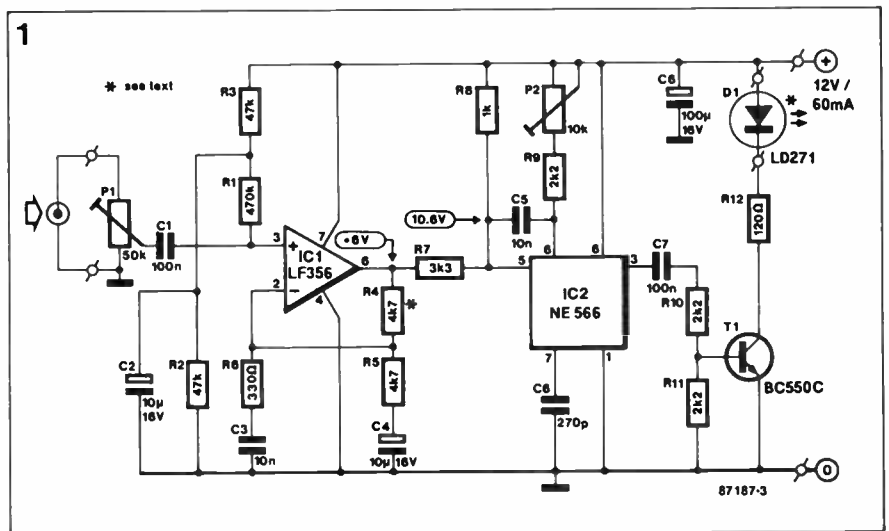

Fig. 1. Circuit diagram of the infra-red transmitter.
Figure 1 shows the circuit diagram of the transmitter. The design is based on only 2 integrated circuits: one for AF amplification and pre-emphasis (IC₁), the other, IC₂, for frequency modulation (FM) of the pulsed current passed through IRED (infra-red emitting diode) D₁.